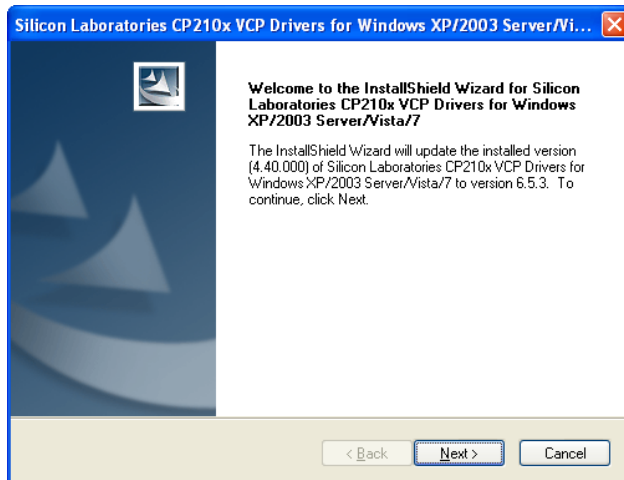

Figure 1 – Good version of Silicon Laboratories driver. Must be 6.5.3 or higher.
- Run the Silicon Laboratories driver wizard (“CP210x_VCP_Win_XP_S2K3_Vista_7 v6.5.3.exe”) included on the USB drive. The window in Figure 1 should appear.